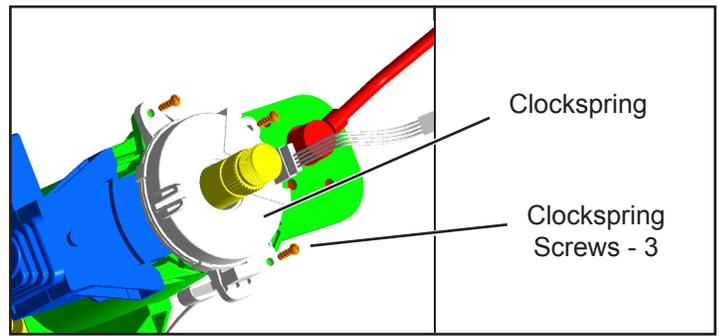

Figure 7 Clockspring Removal
10. Verify that the wheels are straight then tape the top cover of the clockspring to the bottom housing of the clockspring. Using a Torx® driver, remove the three screws that secure the clockspring to the steering column assembly. Refer to Figure 7.